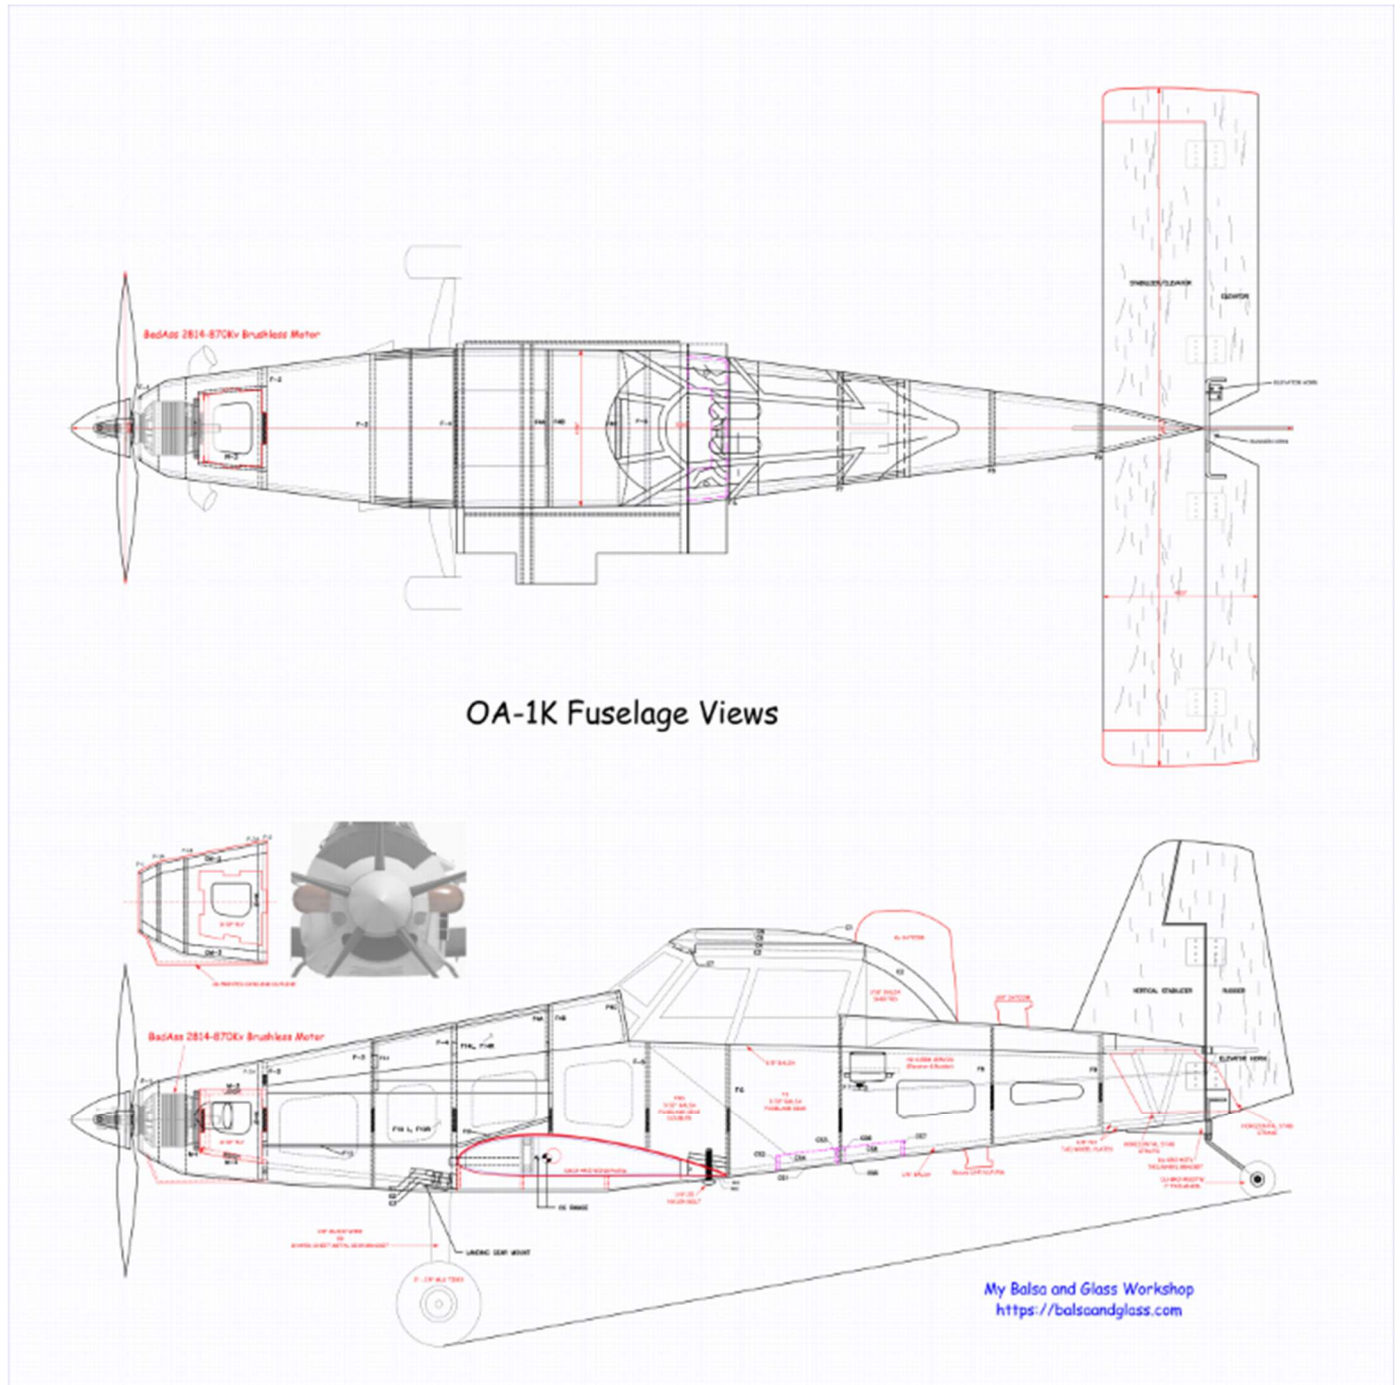

Figure 12 - OA-1K Fuselage 2D CAD Plan Views
Next are the modifications to the AT-802 fuselage plan. **Note** - I updated all the plans to change any measurements from metric to Imperial (US). While I find it easier to build using metric, to aid other builders in ordering balsa and plywood, Imperial measurements are a must. Having selected a BadAss 2814-980Kv Brushless motor for my power system, the structure of the motor box used in the AT-802 plan was shortened to ensure a correct spacing between the propeller and fuselage nose and widened to allow mounting of the new larger motor backplate. With the change of wing rib profile to a NACA 4415, this drives some modifications to the fuselage sides, doublers, several formers, and the area below the wing center section to match the fuselage profile. These plan changes can be seen in Figure 12 below.